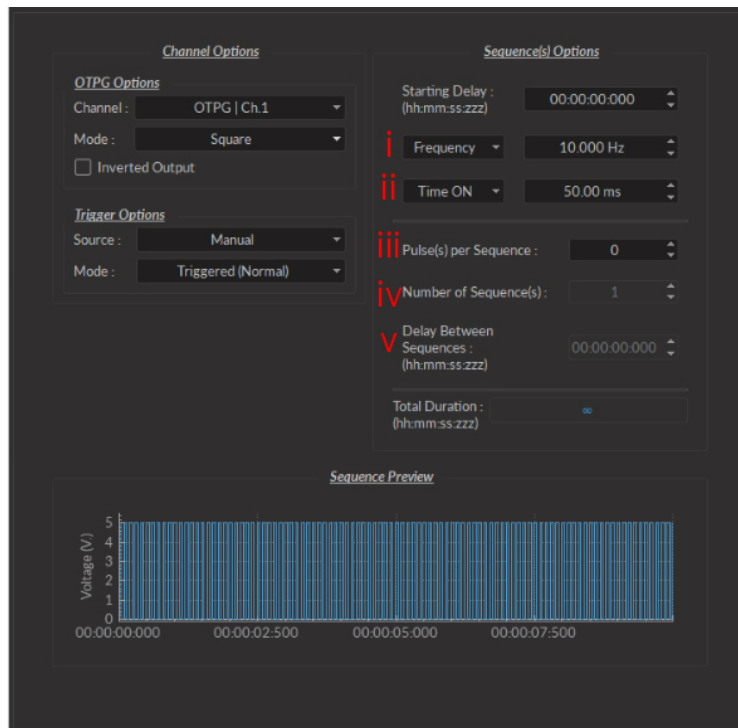

Figure 2.3: Channels Configuration, Square Interface
- i. The **Frequency** (Fig. 2.3) sets the frequency (in Hz), which is the number of pulses per second. The frequency can also be changed to the **Period**. For example, a signal at 10 Hz (frequency) will output one pulse every 100 ms (period), whereas a signal at 0.5 Hz (frequency) will output one pulse every 2 seconds (period).
- ii. The **Time ON** (Fig. 2.3) defines the length of a single pulse. This time can also be converted to a **Duty Cycle**, which represents the % of the period the pulse duration corresponds to.
- iii. The **Pulse(s) per sequence** (Fig. 2.3) set the number of pulses per sequence. If it is set to 0, the number of pulses will be infinite.
- iv. The **Number of sequence(s)** (Fig. 2.3) sets the number of times that the sequence will be repeated.
- v. The **Delay between sequences** (Fig. 2.3) sets the delay between each sequence.